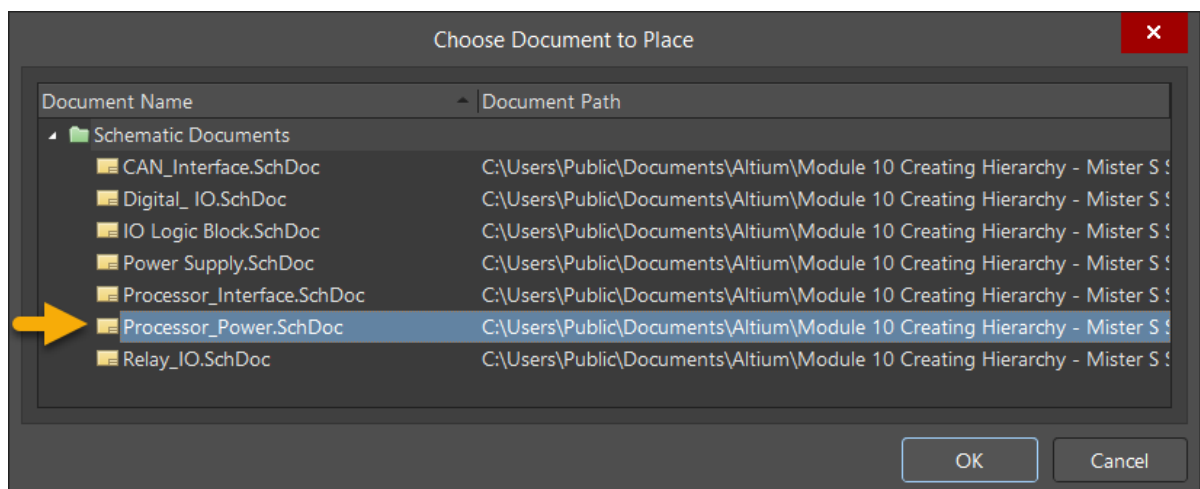

Figure 1. Choose Document to Place as a Sheet Symbol
12. Select the `Processor_Power.SchDoc` from the dialog and select **OK** as shown in Figure 1 below.